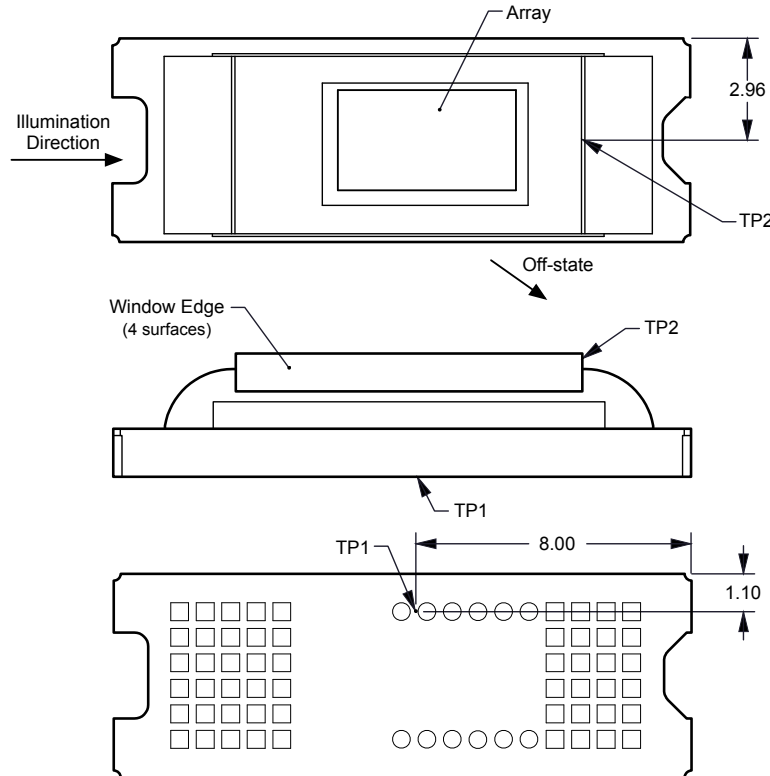

图 7-1. DMD Thermal Test Points
Micromirror array temperature cannot be measured directly, therefore it must be computed analytically from measurement points on the outside of the package, the package thermal resistance, the electrical power, and the illumination heat load. The relationship between array temperature and the reference ceramic temperature (thermal test point TP1 in 图 7-1) is provided by the following equations:
- $T_{CERAMIC}$ = Measured ceramic temperature ($^{\circ}\text{C}$), TP1 location in 图 7-1
- Q_{ARRAY} = Total (electrical + absorbed) DMD power on array (W)
- $Q_{ELECTRICAL}$ = Nominal DMD electrical power dissipation (W)